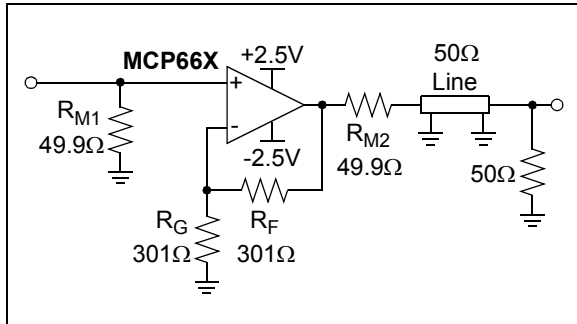

FIGURE 4-10: 50Ω Line Driver.
Differential gain (DG) and differential phase (DP) refer to the nonlinear distortion produced by an NTSC or a phase-alternating line (PAL) video component. The AC Electrical Specifications table and Figure 2-34 show the typical performance of the MCP661, configured as a gain of +2 amplifier (see Figure 4-10), when driving one back-matched video load (150Ω , for 75Ω cable). Microchip tests use a sine wave at NTSC's color sub-carrier frequency of 3.58 MHz, with a $0.286V_{P-P}$ magnitude. The DC input voltage is changed over a +0.7V range (positive video) or a -0.7V range (negative video).
Figure 4-10 shows the MCP661 driving a 50Ω line. The large output current (e.g., see Figure 2-18) makes it possible to drive a back-matched line (R_{M2} , the 50Ω line and the 50Ω load at the far end) to more than ±2V (the load at the far end sees ±1V). It is worth mentioning that the 50Ω line and the 50Ω load at the far end together can be modeled as a simple 50Ω resistor to ground.